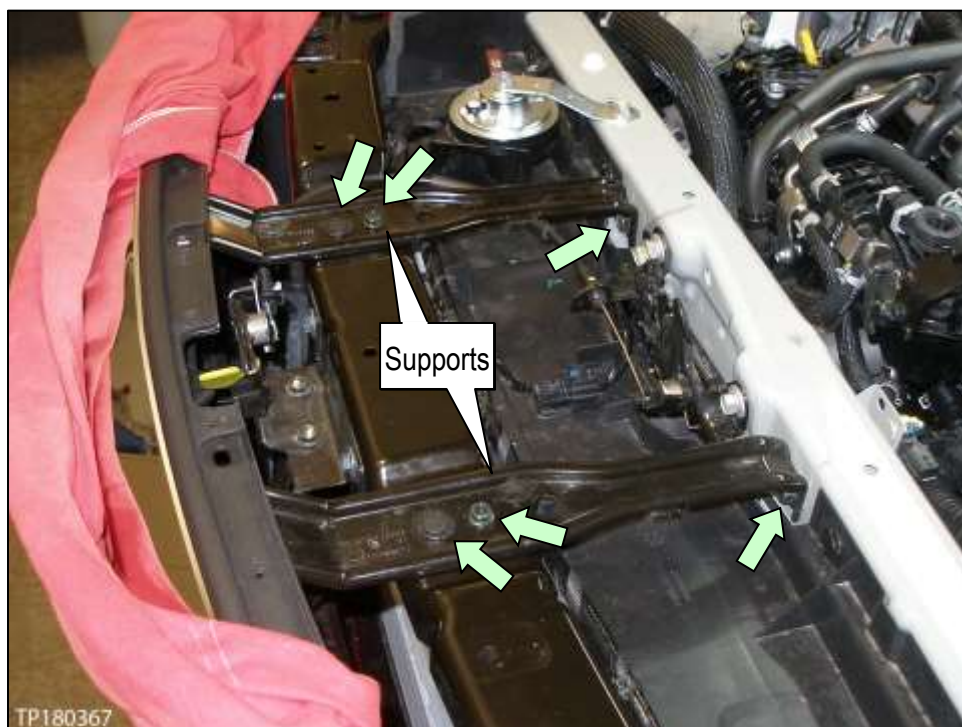

Figure 15
- Remove the bolts and clips (see arrows in Figure 15).